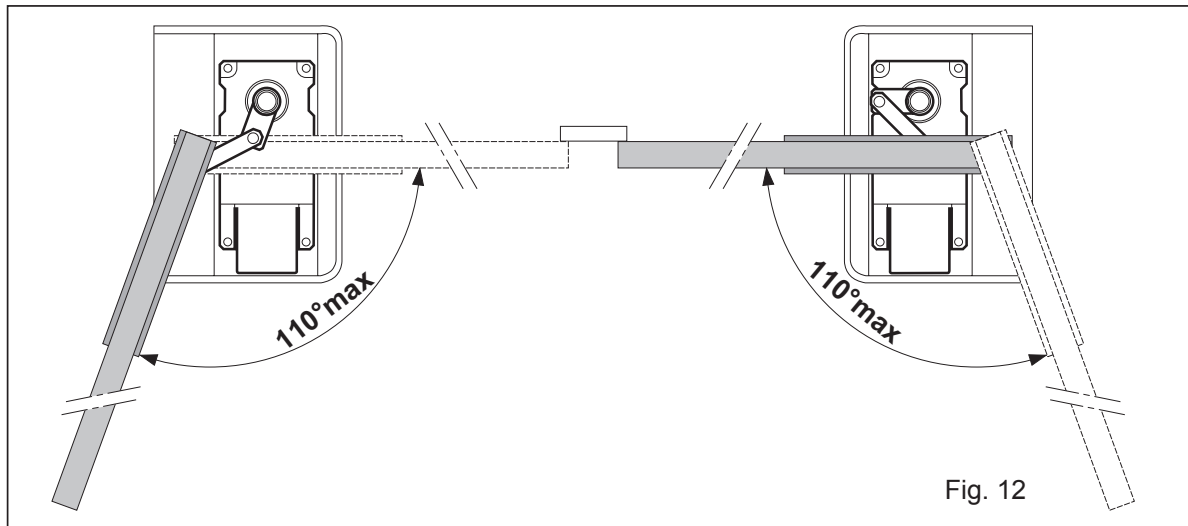

Fig. 12
**Note:** the exact position of the operator is shown in Fig. 12. In any case, the operator pinion must be on the opposite side of leaves opening direction.